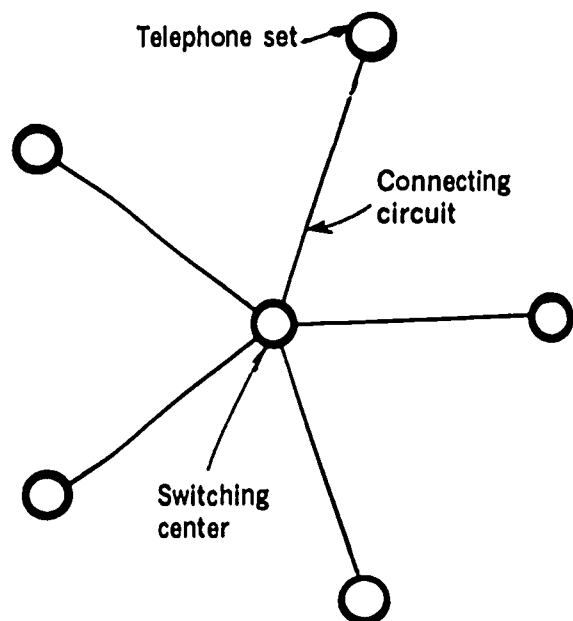

Fig. 82-3. All telephone networks are made up of three types of equipment: the stations (telephone sets), the connecting circuits, and the switching centers.
A telephone network is made up of three major kinds of equipment. They are (1) *stations*, (2) *connecting circuits*, and (3) *switching centers*, Fig. 82-3. A *station* may be a telephone set or perhaps some other device like a teletypewriter or a data set.